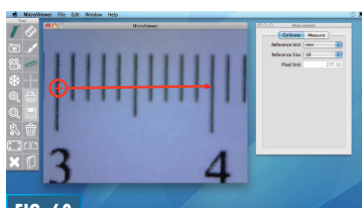

FIG. 60
4. Click and hold the mouse button at the 3 centimeter line and drag the cursor to the 3.5 centimeter line (**Fig. 60**).